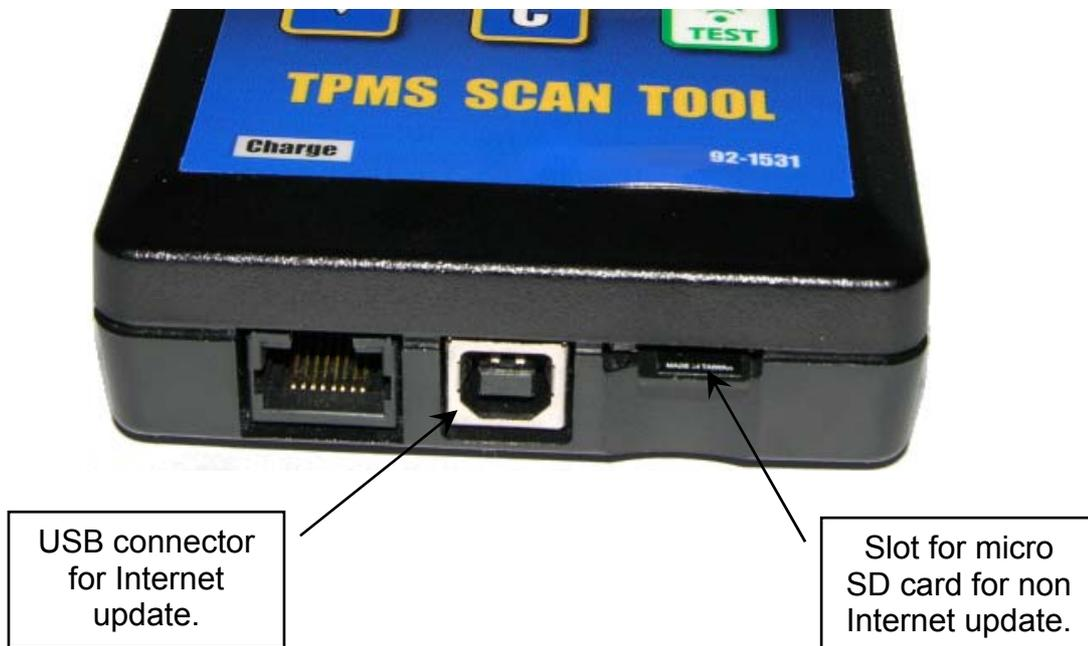

Fig. 8
- 1) **Connect the TPMS TOOL to the USB port of your PC to properly install the drivers.** See Fig. 8.